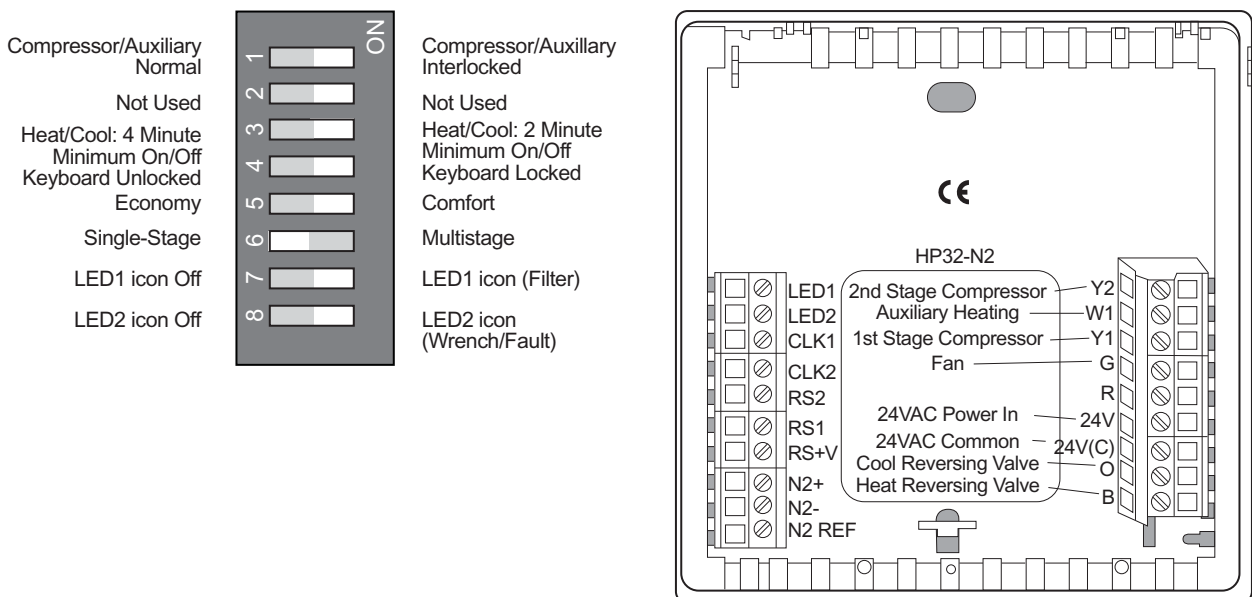
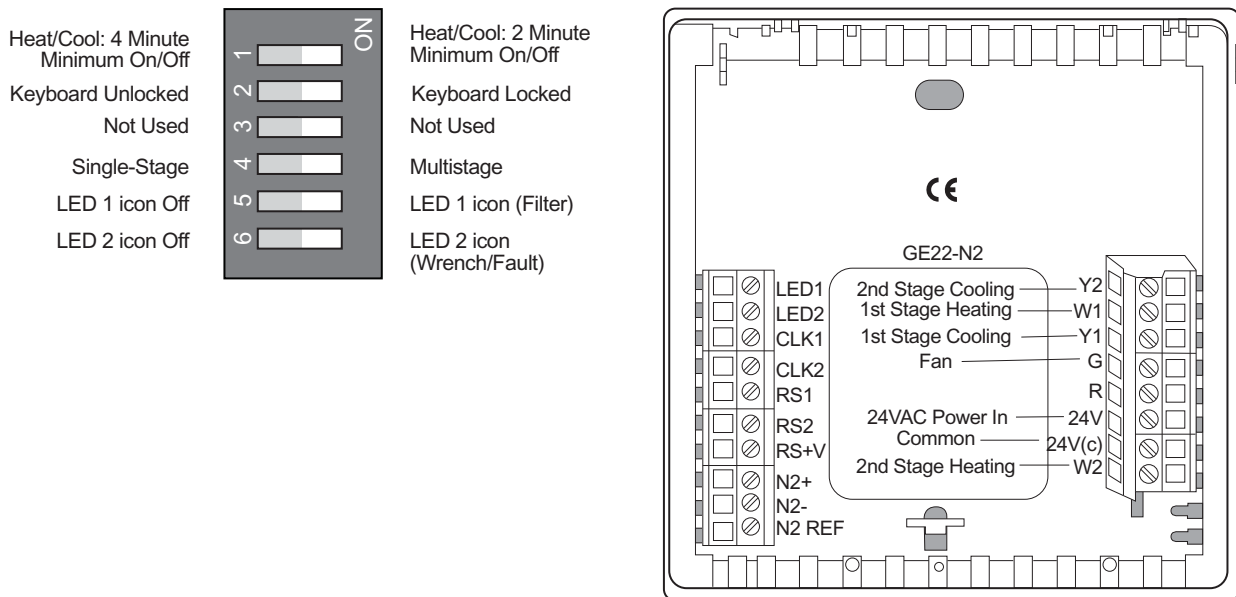

Figure 3: HP32-N2 Heat Pump, Factory-Set DIP Switch Settings, and Wiring Configuration
Figure 5: GE22-N2 Multistage Factory-Set DIP Switch Setting and Wiring Configuration
1. Connect the wires from the existing system to the thermostat terminals. Refer to Figure 3, and Figure 5 for wiring diagrams.